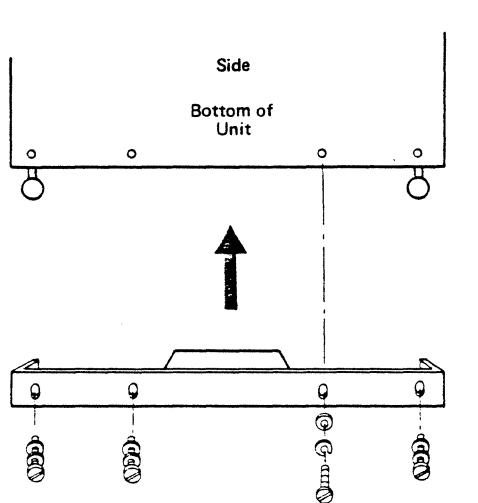

Figure 7-20. *Installing the Side Ground Plates*
26. Using four screws (PN 332620), four lock washers (PN 9092), and four flat washers (PN 45690), secure the ground plate while pressing the plate firmly against the ground (Figure 7-20). Tighten the screws.